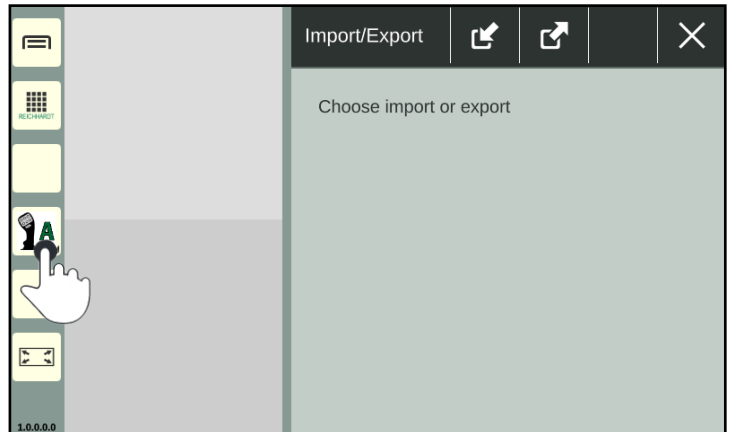

Fig. 51: Pressing and holding the shortcut for the application in the sidebar
1. Press and hold the shortcut for the corresponding application in the sidebar (see Fig. 51).